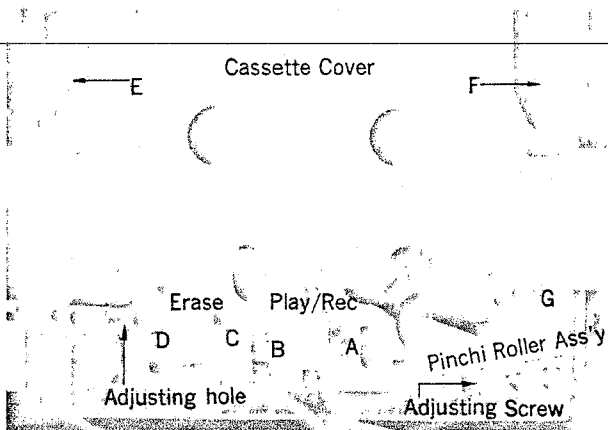

Fig. 5-5
- 1) At the state of STOP, adjust the Brake by inserting a ⊖ type screw driver into an adjusting hole, as shown in Fig. 5-5.